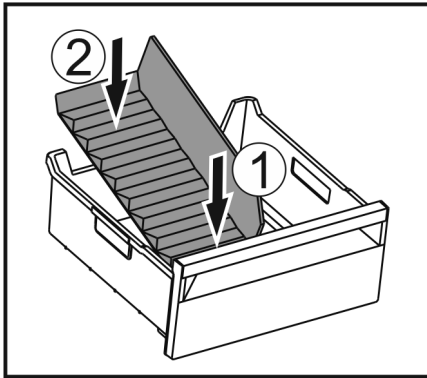

Fig. 185
- ▶ Insert the front part of the ice compartment divider. Fig. 185 (1)
- ▶ Lower the rear part of the ice compartment divider to the drawer bottom. Fig. 185 (2)